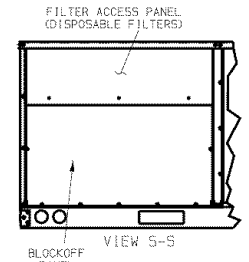

Fig. 7 — Base Unit Dimensions
POSITIONING — Maintain clearance around and above unit to provide minimum distance from combustible materials, proper airflow, and service access. See Fig. 7.
Step 5 — Install Flue Hood — Flue hood is shipped screwed to the burner compartment access panel. Remove from shipping location and, using screws provided, install flue hood and screen in location shown in Fig. 7 and 8.